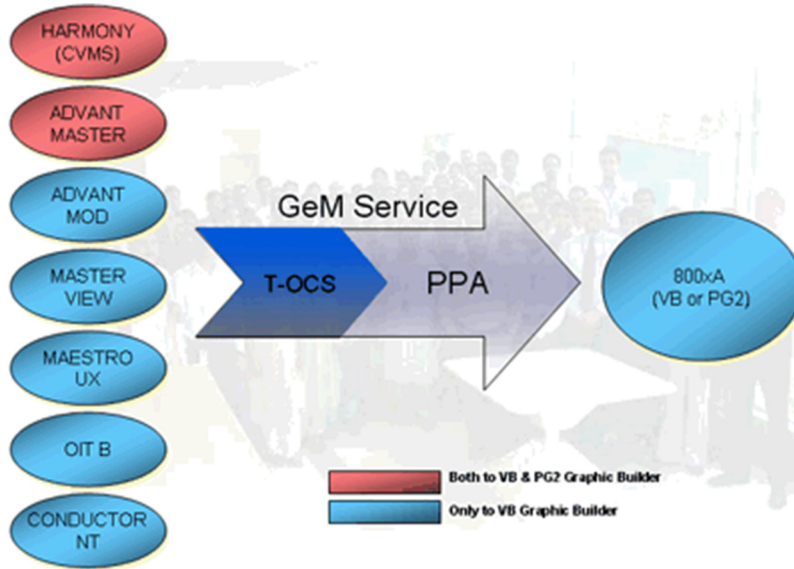

Figure 174. GeM Service
- Providing the Human System Interface (HSI) upgrade services from many traditional OCS systems to System 800xA, using the Automated GeM tool (Figure 174).